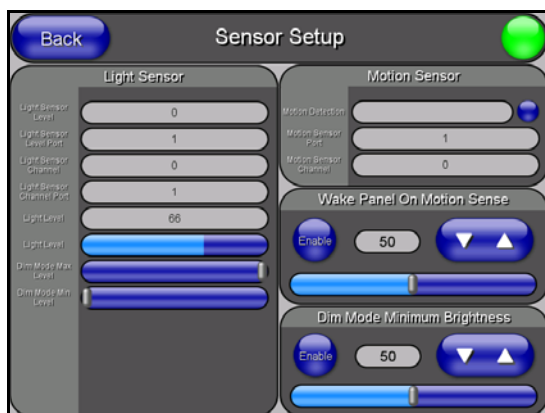

FIG. 122 Sensor Setup page
The Sensor Setup page (FIG. 122) allows you to adjust the Light and Motion Sensor parameters on a Modero touch panel.
3. Open the Sensors Setup page (FIG. 122 on page 158) from the Protected Setup menu sections.